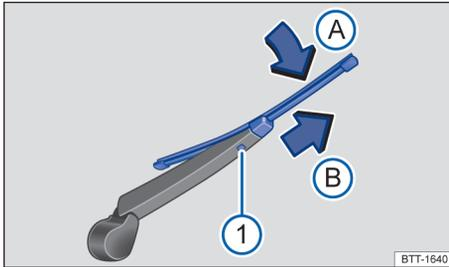

Fig. 155 Changing the rear window wiper blades.
- Lift the wiper arm away from the rear window in the direction of arrow **A** → fig. 155.
- Press and hold the release button → fig. 155 ①.
- Install a new wiper blade of the **same length and type** onto the wiper arm by pushing in the opposite direction of the arrow → fig. 155 **B** until it latches.